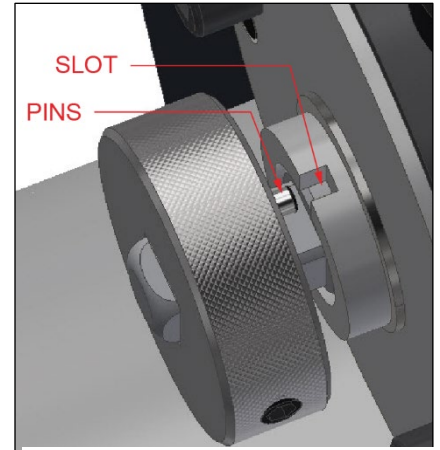

Figure 29. Crank pins disengaged
1. Disengage the feed box crank. The pins should be retracted from the carrier feed ratchet slots (see Figure 29).